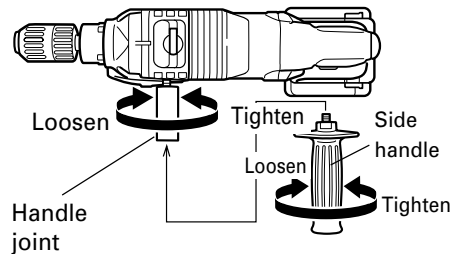

Fig. 8
5. Installing the side handle and handle joint (Fig. 8)